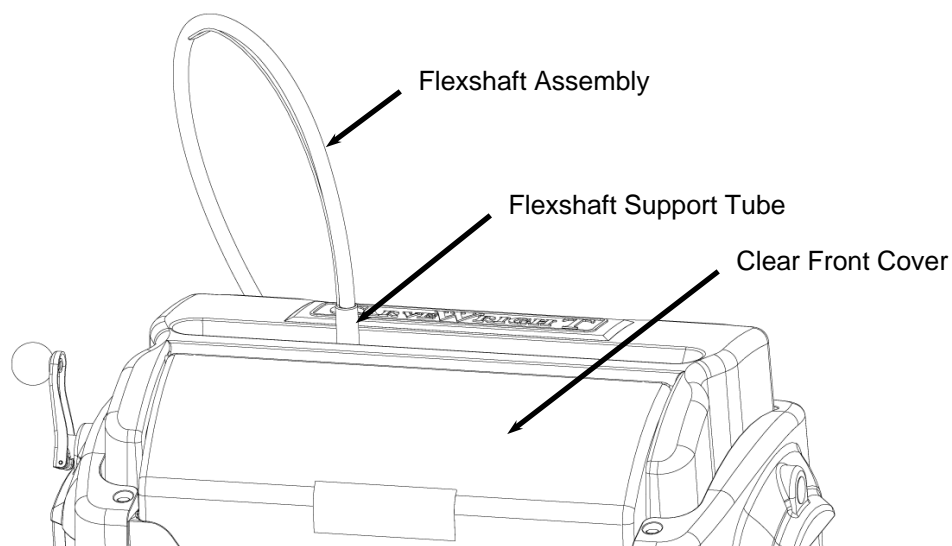

FIGURE 1: EXTERIOR VIEW OF THE FLEXSHAFT AND HEAD COVERS
1. **Ready the machine.** Unplug the machine from the power outlet and place it on a stable work platform. Raise the head up several inches for best access. Move the Z-truck to the very top of its travel (until it reaches the hard stop) so that the flexshaft support tube protrudes from the head cover (See Figure 1).